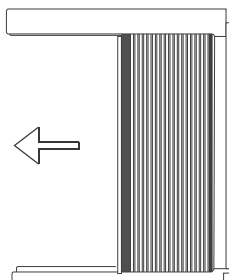

Fig. 1
A. Hold the side panel in one hand and gently pull back the center to free the open end. See Fig. 1.